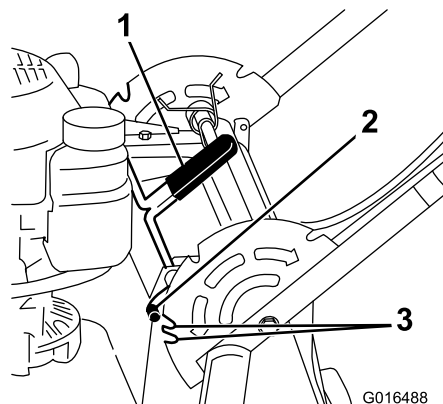

Figure 16
1. Pull the handle-lock lever rearward to disengage the handle-lock pins (Figure 16).
2. Rotate the handle and align the desired notch in the handle bracket to the handle-lock pins; refer to Figure 16.